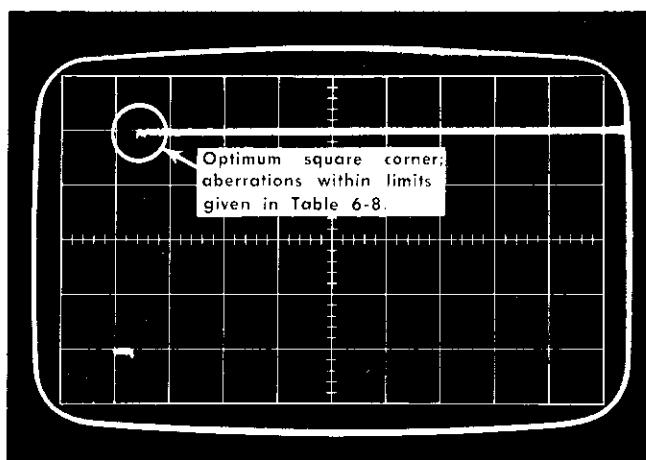
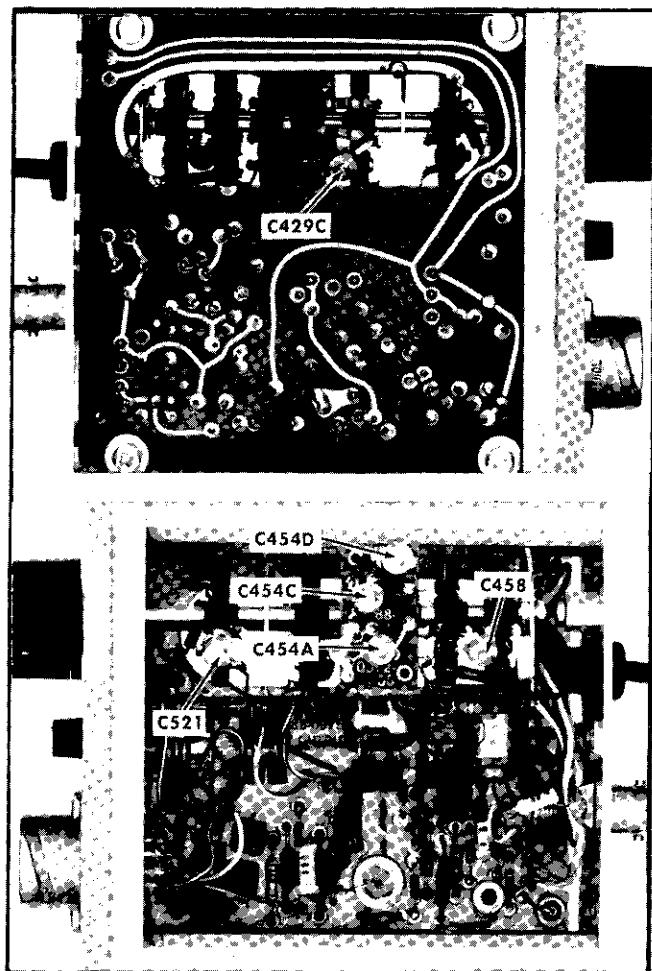

Fig. 6-27. Transient response waveform, step 6.
Fig. 6-28. Transient response adjustment locations.
e. Set the Oscilloscope TIME/DIV to .1  $\mu$ s and adjust the triggering and position controls as necessary to provide a presentation as in Fig. 6-27.
f. CHECK and ADJUST—Transient response of a 4 division square wave at each setting of the mVOLTS/DIV switch in the sequence listed in Table 6-8. Optimum squareness should exist at the upper left corner of the square wave. Use Fig. 6-27 as a reference. Adjustment locations are shown in Fig. 6-28.